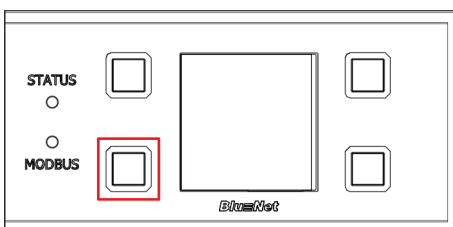

Fig. 80: Display with control buttons
2. ➤ Press the button next to the Modbus LED for two seconds and release it again (Fig. 80/red marking).